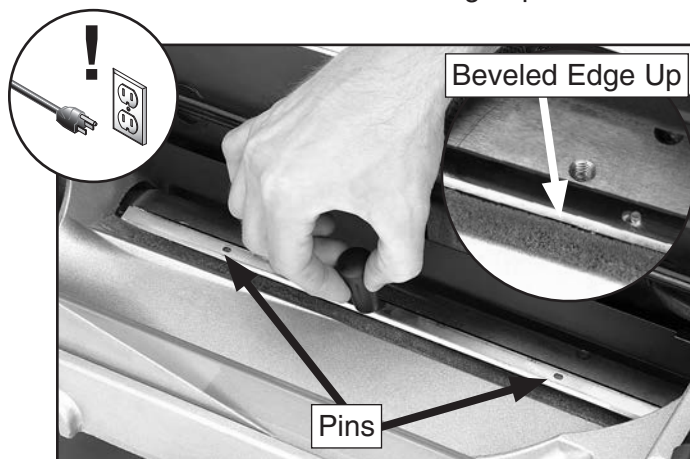

Figure 29. Example of knife installation.
2. Using magnets, position knife over two pins on cutterhead (see **Figure 29**). Be sure knife is oriented with beveled edge up.